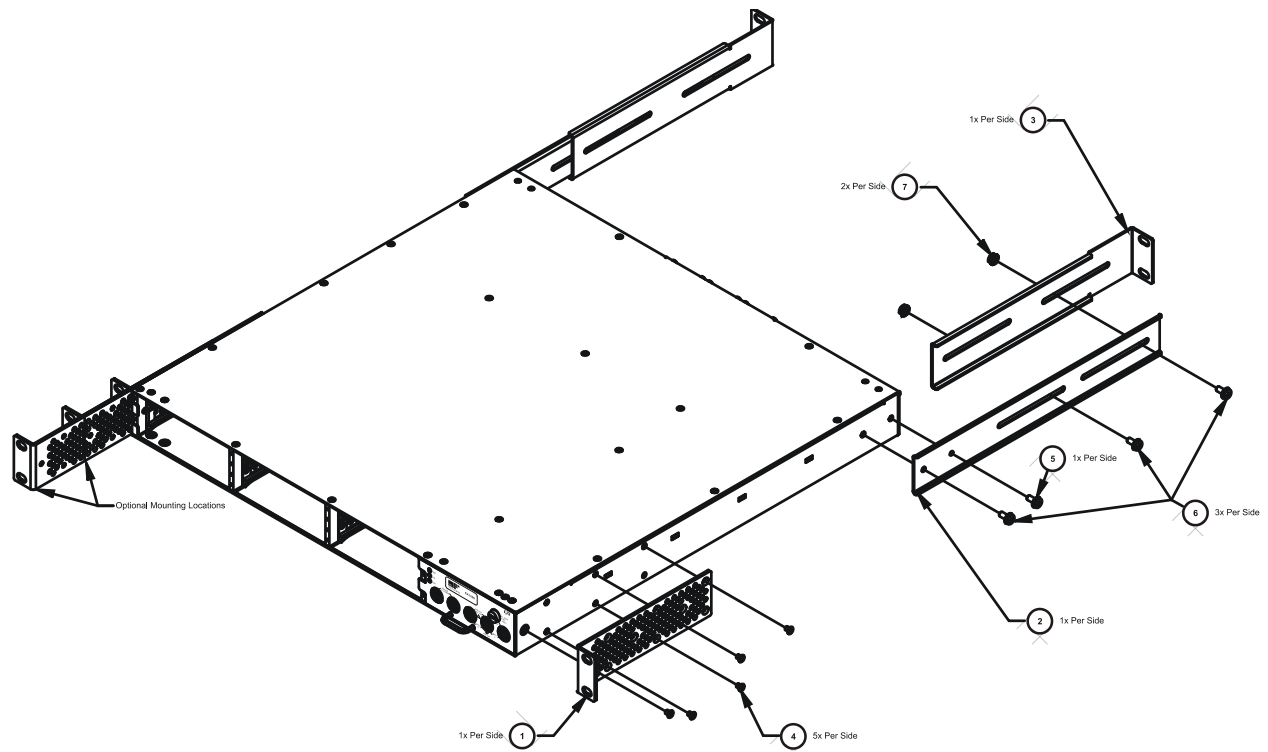

FIGURE 2-10: RACKMOUNT HARDWARE INSTALLATION DIAGRAM (EXPLODED FRONT VIEW)
- 2) Using a #2 Phillips screwdriver, install the rack ears (P/N: 41-0472-008) on the front of the EX1200 using five (5) 6-32 x 3/8" flat head Phillips stainless steel screws (P/N: 37-0114-025) for each rack ear. Note that the "Optional Mounting Locations" in Figure 2-10 allow the EX1200 to be installed in a rack either flush or recessed.
- 3) Next, attach the unit support brackets (P/N: 41-0482-010) to the EX1200 using two (2) 6-32 x 3/8" pan head Phillips SEMS screws (P/N: 37-0028-037) for each bracket (see Figure 2-10).
- 4) Place the rear rack support brackets (P/N: 41-0482-011) on the inside of the unit support brackets installed in step 3 and loosely secure them using two (2) 8-32 x 3/8" pan head Phillips SEMS screws (P/N: 37-0073-037) and two (2) KEPS hex nuts (P/N: 37-0200-832). Loosely installing the hardware will allow the rear support bracket to adjust to the proper length once installed in a rack.